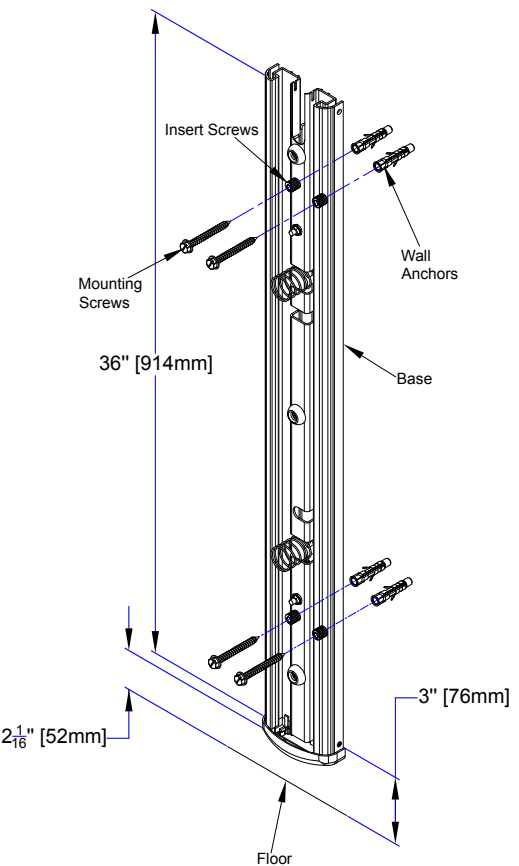

Figure 4.2 Mounting of Base Unit
3. Determine and mark the optimum height and mounting location from the finished floor to mount the Column™ Switch. (See Figure 4.2 and 4.3)